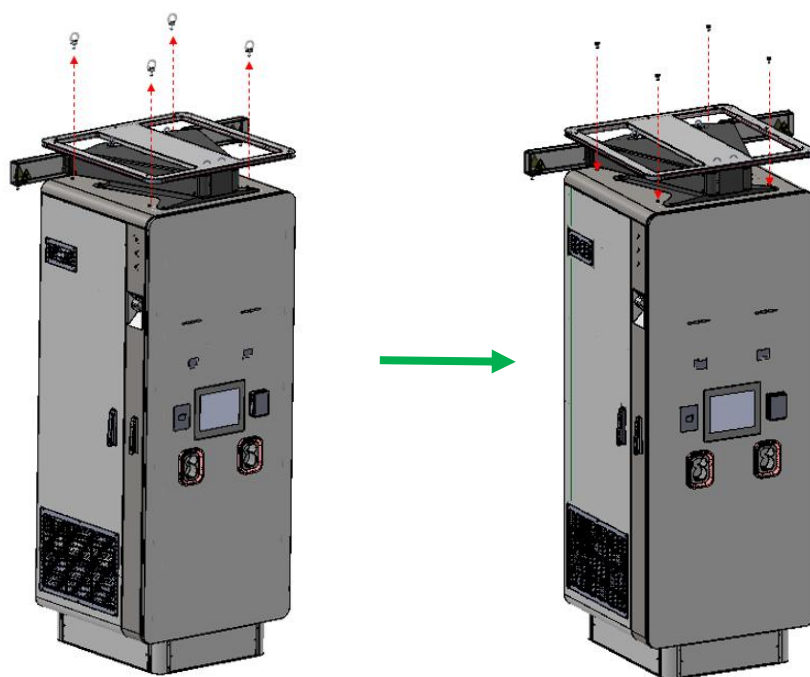

Figure 9 Removing lifting bolts and installing top screws
(3) If the Ethernet communication is required, open the right door of the charger, make the network cable go through the bottom of the cabinet, and take it from the right side to the front side, reserve the corresponding length, strip the cable, crimp the RJ45 connector, and connect it to the router, as shown in Figure 9.